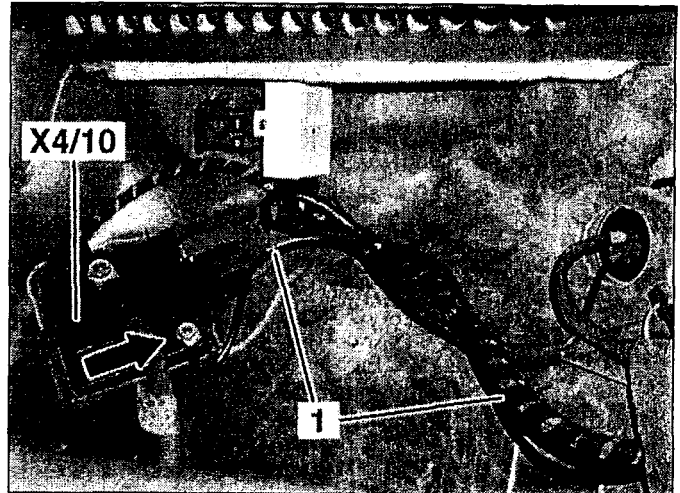
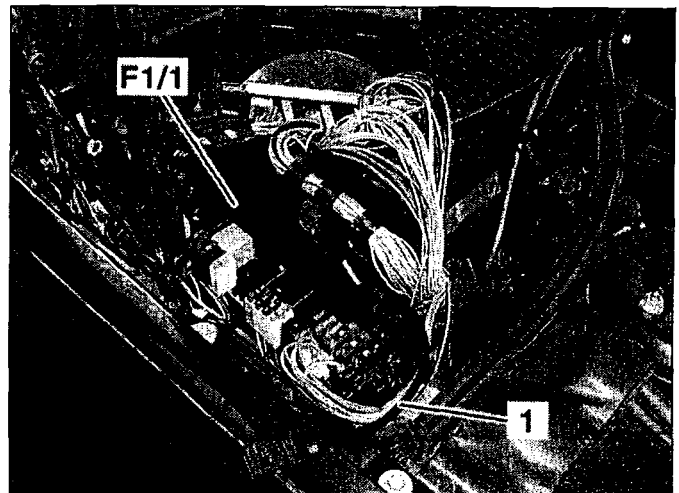
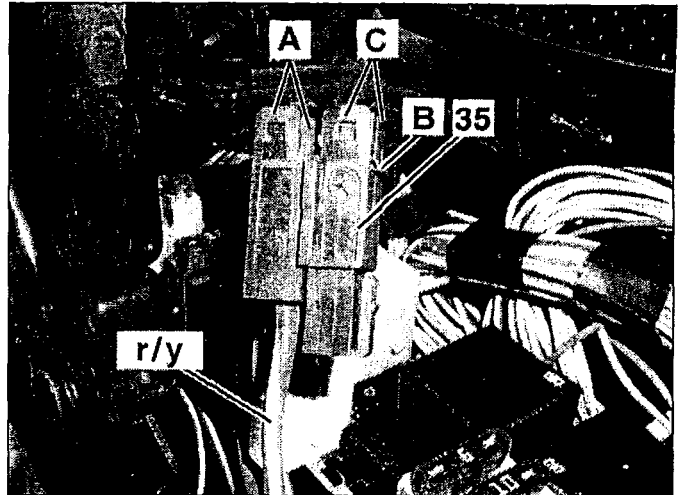

Figure 2
Figure 3
Figure 4
1. Route new interior blower motor wiring harness (1, Figure 2) with ring connector from the right fuse box (F1/1, Figure 3) into the right front footwell.
2. Route new interior blower motor wiring harness (1, Figure 2) along existing cables to the cable connector and fuse box terminal 30 (X4/10) and secure with cable ties.
3. Connect ring connector to designated M8 screw connection and torque M8 nut (arrow, Figure 2) to 9 Nm. (+ / - 1 Nm).
4. Remove brown fuse holder (fuse 35, Figure 4) with 40A fuse from the right fuse box (F1/1, Figure 3).
5. Unpin wire connector (with r/y wire, Figure 4) from brown fuse holder (35):
- Remove fuse from fuse holder (35).
- Unclip two outer locking tabs (A, Figure 4) furthest from the hinge (B) then partially pry open cover.
- Unclip two outer locking tabs (C, Figure 4) closest to the hinge (B) then fully open cover to expose wire connectors.